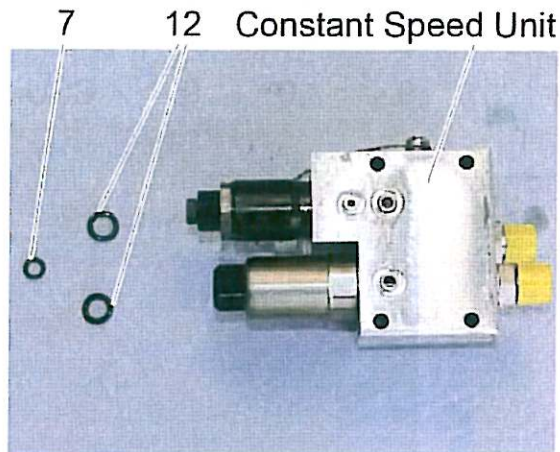

Figure 17
14. *Fit the small O-ring (item 7) and the two bigger O-rings (item 12) into the designated places at the Constant Speed Unit (CSU). See Figure 17.*